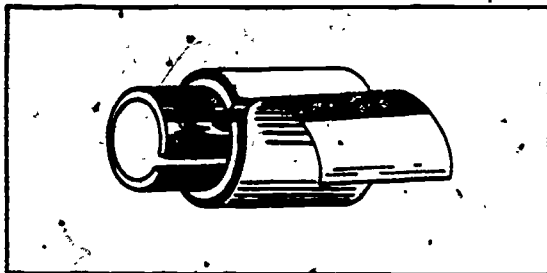

Figure 4-8. Antisweat insulation.
h. **Antisweat.** Antisweat insulation, shown in figure 4-8, is designed for use on cold water pipes. It keeps the water colder in the pipes than most types of insulation, and if properly installed, it prevents